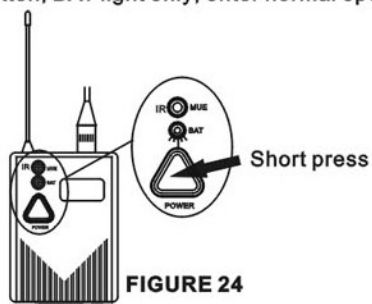

FIGURE 24
- 3.Short press(1 second) POWER button, BAT light only; enter normal operation(Figure 24).